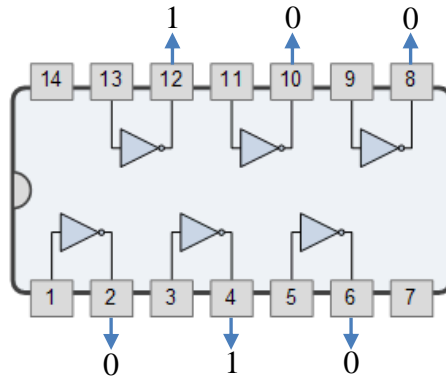

Figure 3(b)
- (i) Power dissipation,  $P_{D(max)}$  on a DM7404 IC when the output condition is as shown in Figure 3(b). Assume that the  $V_{CC}$  used is 5.5V. (6 marks)